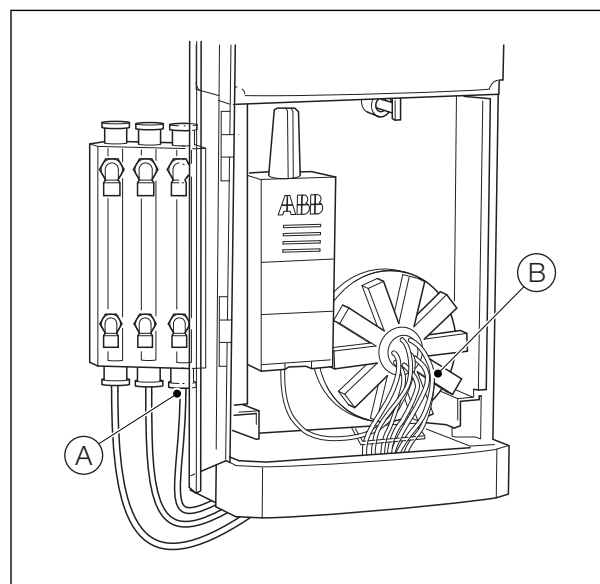

Fig. 13.4 Replacing Sample Tubes
1. Referring to Fig. 13.4:
- b. Disconnect the tube from the base of the side sample pot (A) and discard.
- d. Route the tube as noted in step a and connect the other end to the S1 valve connector (B) on the valve manifold.